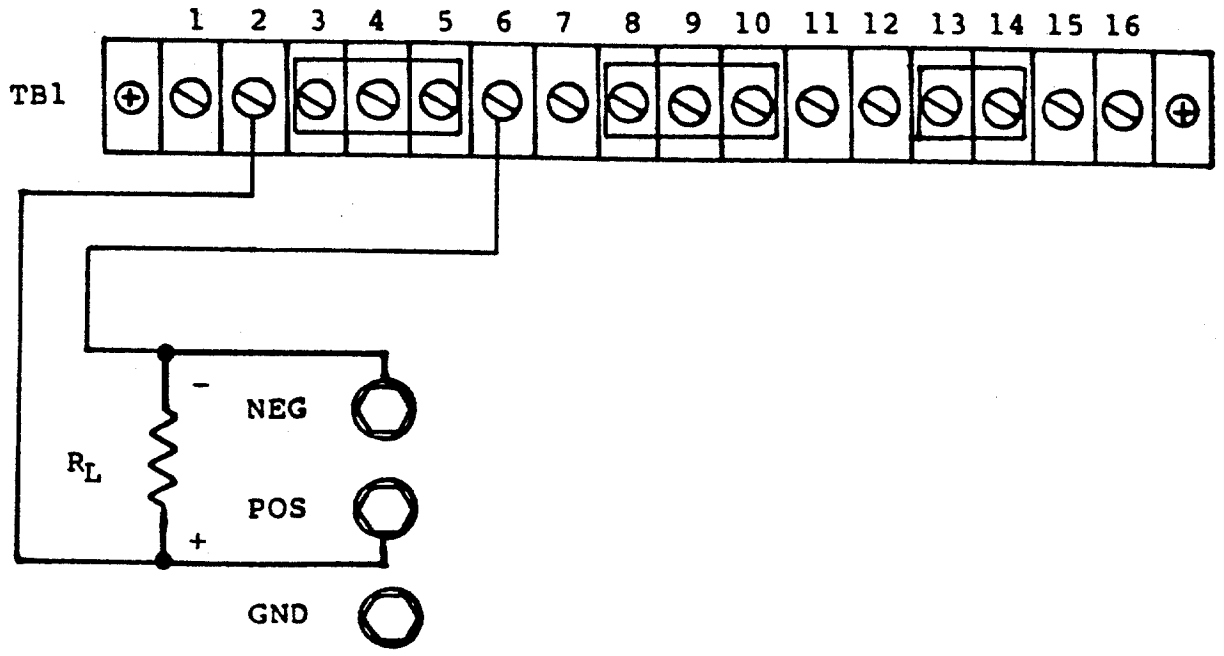

Figure 3-7. Remote Sensing Operation
d. Remote Sensing.¹ In applications where the load is located some distance from the power supply or the voltage drop of the power output leads significantly interferes with load regulation, remote voltage sensing may be used. When remote sensing is used, voltage is regulated at the load versus the power supply output terminals. To connect the power supply for remote voltage sensing (see Figure 3-7 for strapping requirements):